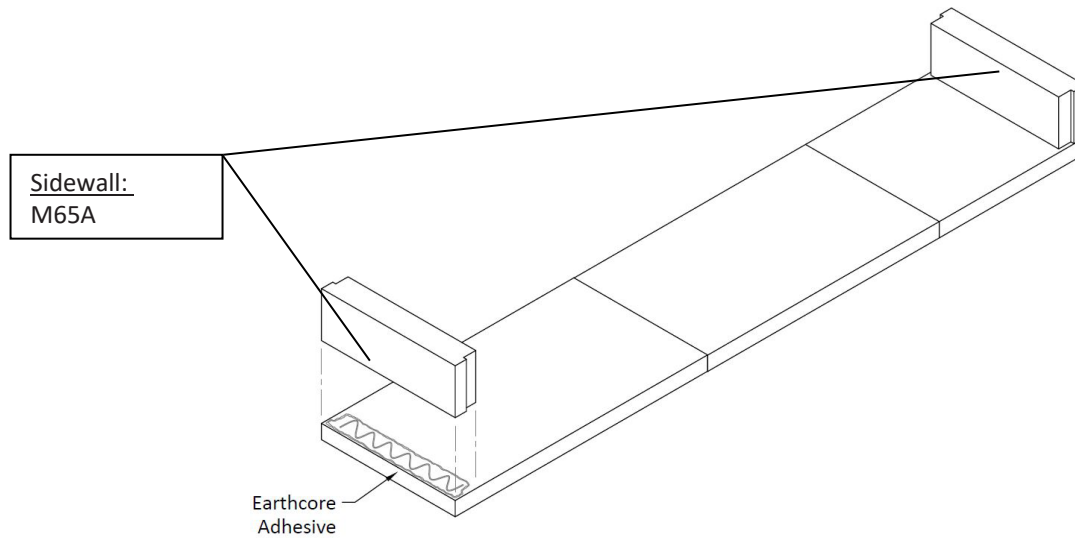

FIGURE 9
- 2) Set the first course of the firebox side walls and back walls into place (**Figure 9**).